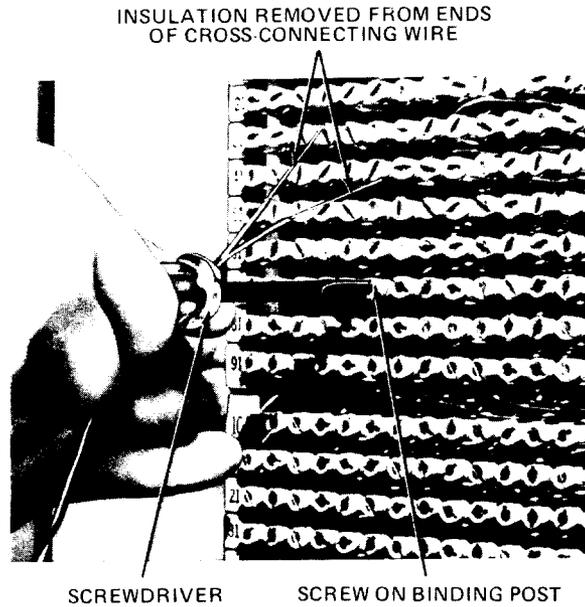

Fig. 9—Terminating Cross-Connecting Wire on Distribution Field—76-Type Binding Post
5.03 Place wires *between* washers on the binding post. Do not cross-over the wires. Tighten the screw finger tight plus 1/4 turn with the screwdriver. *Do not overtighten.* Cut the excess length of wire at the binding post and *remove the wire clippings* (Fig. 9).